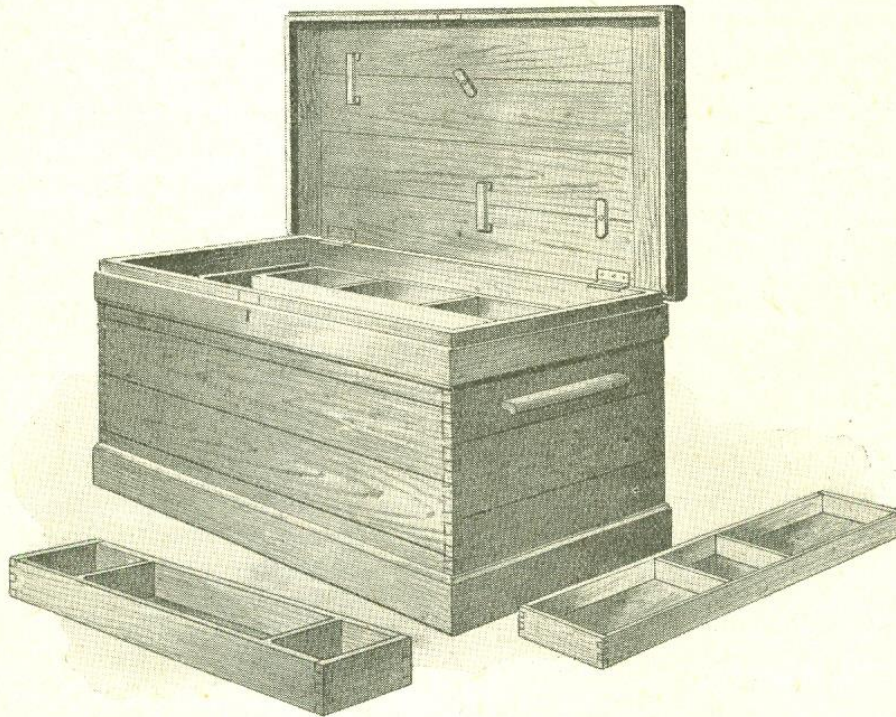

FIG. 1. A COMMODIOUS CHEST WITH AMPLE ACCOMMODATION FOR THE COMPLETE KIT
13 in. high, is fitted lengthways. (And here it may just be said that, if such partitions are fitted between two ¾ in. square fillets instead of being permanently nailed, their positions may be altered at any time.) Then, about 6 in. from each end, two racks (B) are fitted. With three long slots cut as shown, these will hold three saws, two with their handles at one end and one with handle at other side. Provision for tenon saws, etc., on lid can be made as indicated in Fig. 1.